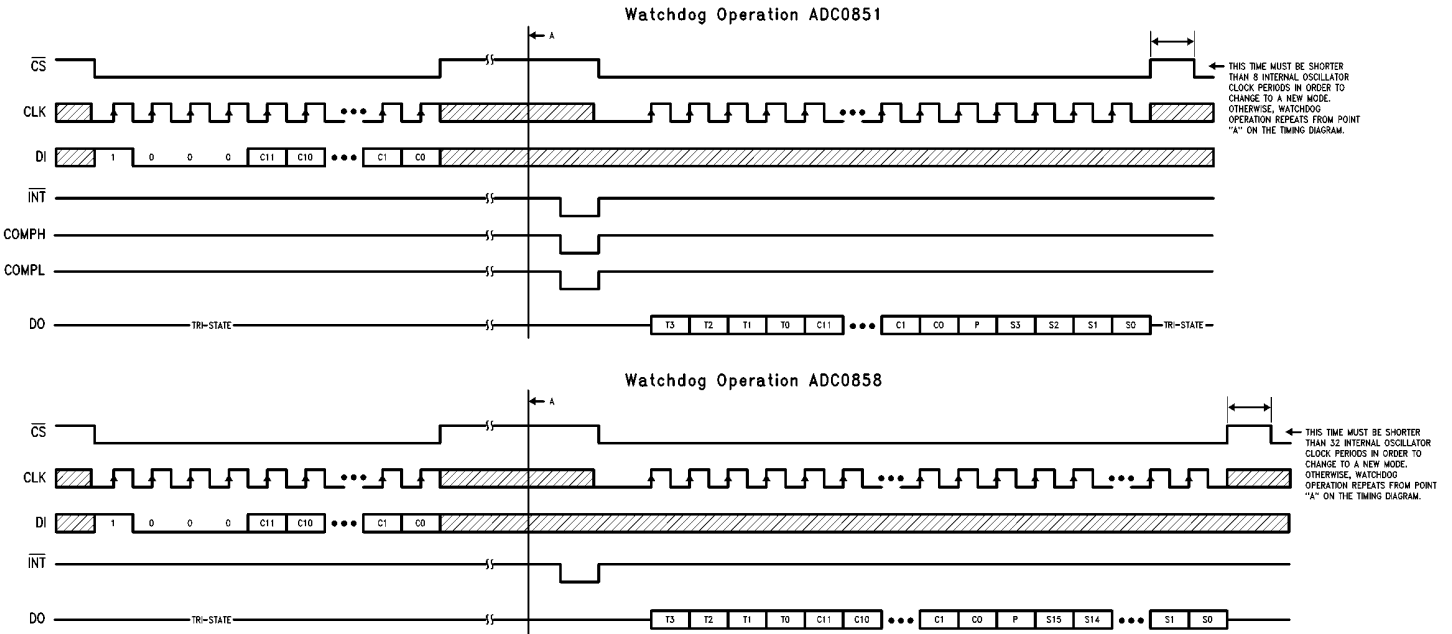

FIGURE 7. Timing Diagrams for Watchdog Operation
The timing diagrams for ADC0851 and ADC0858 watchdog operation are shown in *Figure 7*. After a \overline{CS} low is detected, the input word (DI) is clocked in starting at the first rising edge of the serial clock (CLK). Once the least significant bit of the channel address is loaded, \overline{CS} should go high. Taking \overline{CS} high after the proper input word is loaded initiates the operation of the device in the watchdog mode. To keep the device in continuous watchdog mode, \overline{CS} should remain high for eight or more OSC clock periods for the ADC0851 and thirty-three or more OSC clock periods for the ADC0858. If the input signals are within the boundary limits, the interrupt pin (INT) remains at logic "1" and the Data Output (DO) pin is in TRI-STATE. In addition, in the case of the ADC0851, the COMPL and COMPH pins remain at logic "1".
To output data after a limit crossing occurs (i.e., after \overline{INT} goes low), \overline{CS} should be brought low. Note that \overline{INT} , COMPL and COMPH would remain low as long as \overline{CS} doesn't go low. After \overline{CS} goes low \overline{INT} , COMPL and COMPH go high and one clock cycle later output data is transmitted starting at the first rising edge of CLK, however, the data is valid at the falling edge of CLK (Figure 7).